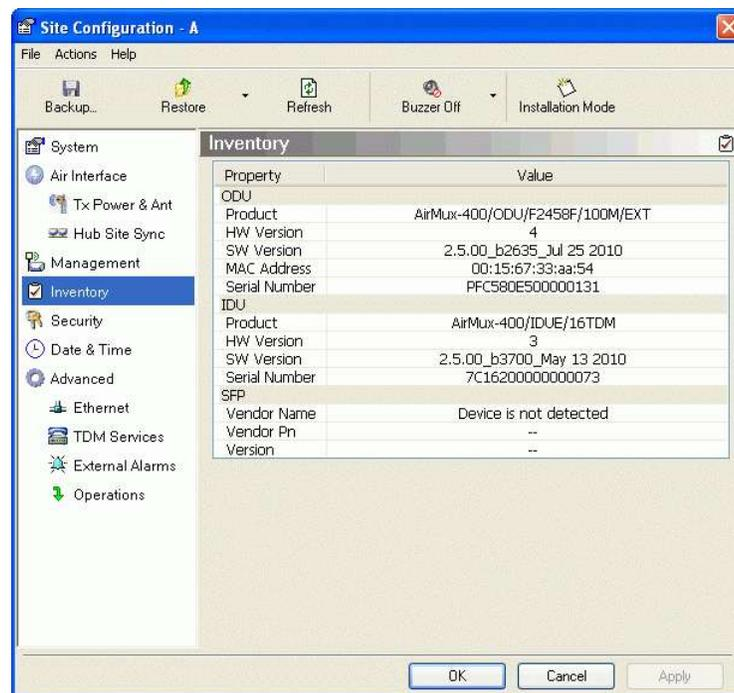

Figure 4-39. Inventory Screen
3. Select **Inventory** (*Figure 4-39*).